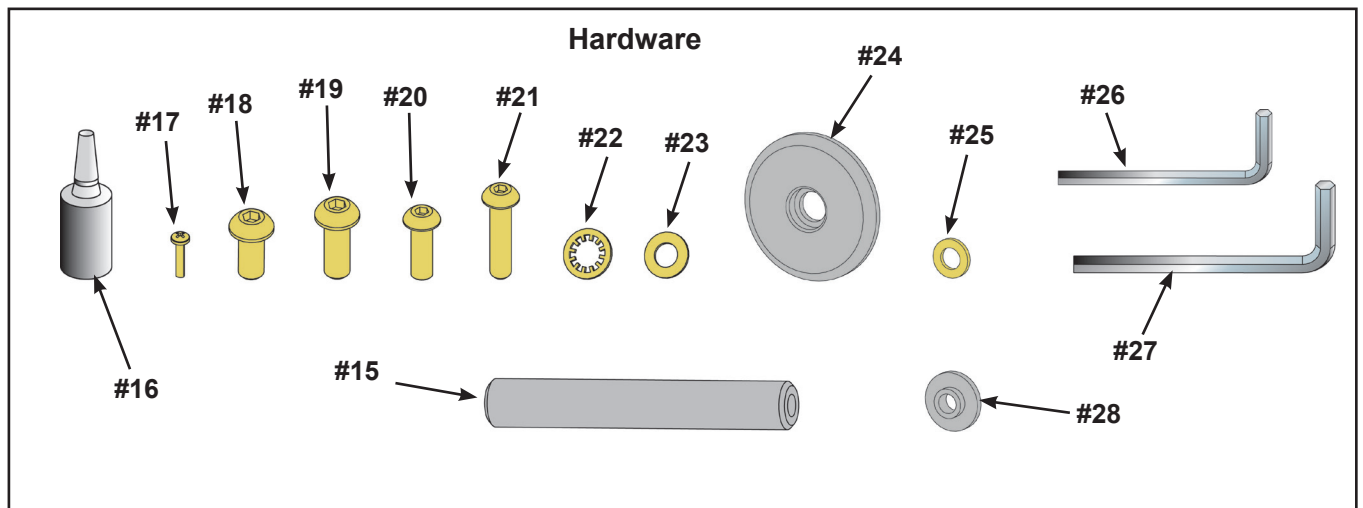

Figure 2
E. Check off () each item in the hardware pack as you find it. See Figure 2 and 3.